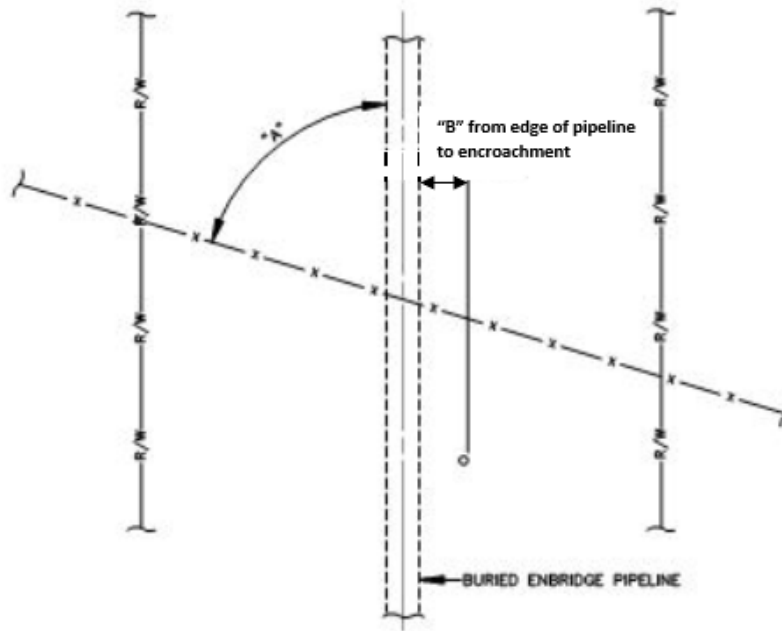

Figure 11: Above-Ground Installations – Typical Drawing
- above-ground installations (see Figure 11: Above-Ground Installations – Typical Drawing)